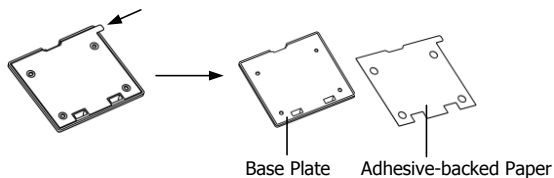

Fig. 11-10
- (1) Pull the **Adhesive-backed Paper** off the **Base Plate** as indicated by the arrow icon in the top left of Fig. 11-10.